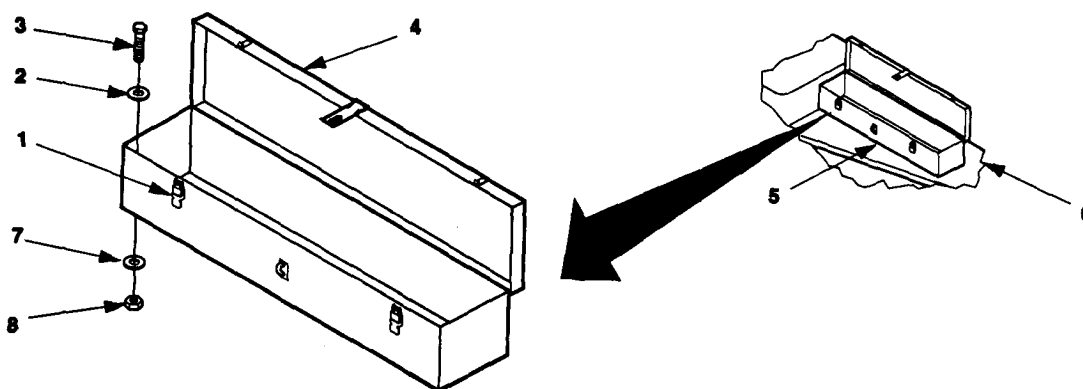

Figure 4-18. Accessory Box Maintenance,
1. Release clamping catches (1, figure 4-18) and open accessory box cover (4).
2. Remove any stored accessories from accessory box (5).